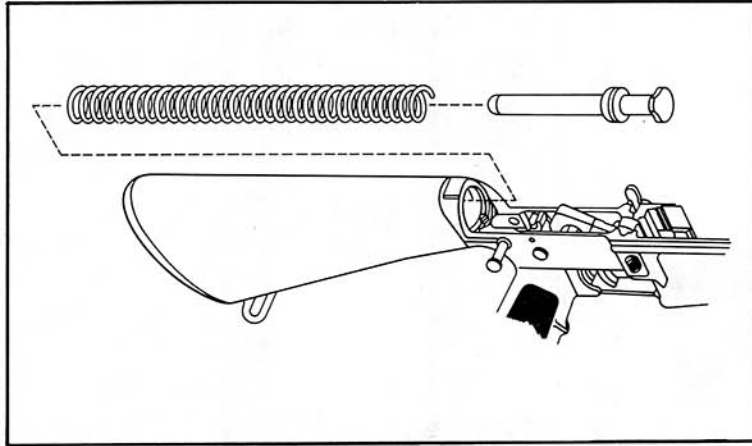

Figure 2-11 Buffer and Return Spring Removed
- g. Separate the buffer and the return spring, see Figure 2-11. Set the selector lever to 'R'. Controlling the hammer, fire the action.